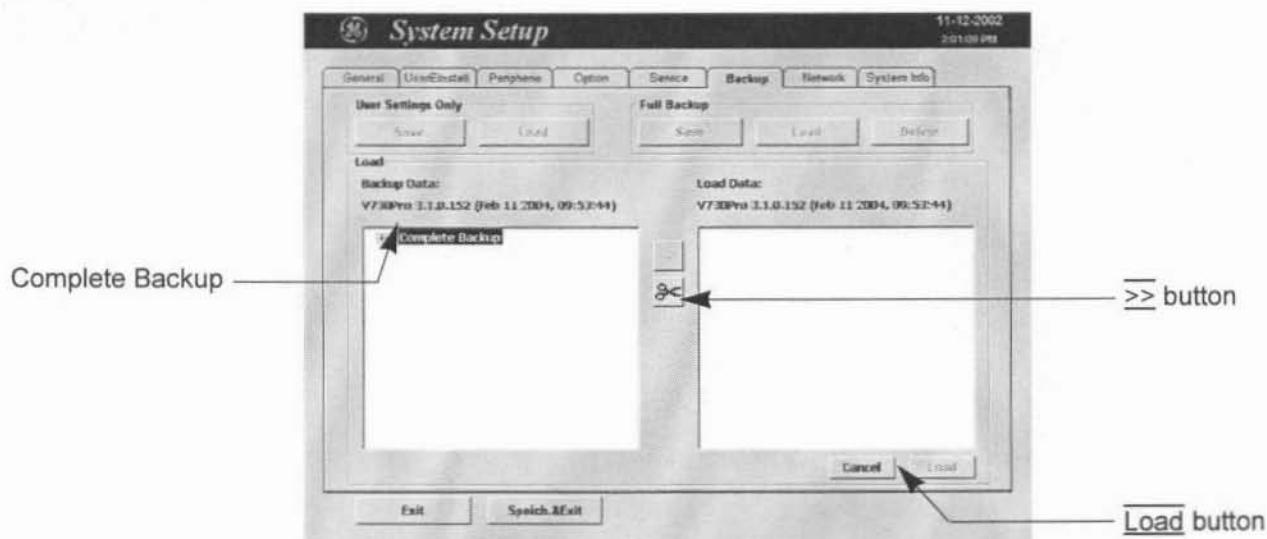

Figure 4-25 Load Backup Data
- 7.) Select the **Complete Backup** (marked blue; see: Figure 4-25) and click the **>>** button to copy the Complete Backup into the Load Data field.